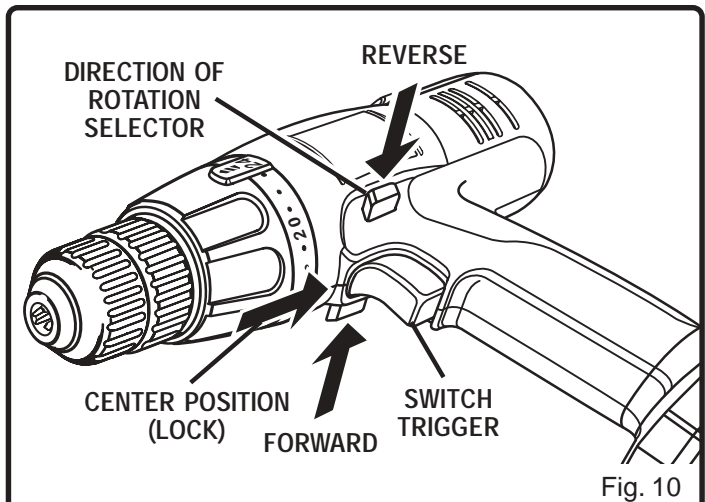

Fig. 10
- Place the direction of rotation selector in center position. This will lock the switch trigger in the off position. See Figure 10.
- Lock the switch trigger by placing the direction of rotation selector in center position. See Figure 10.
- Place the direction of rotation selector in center position. *See Figure 10.*
See Figure 10.